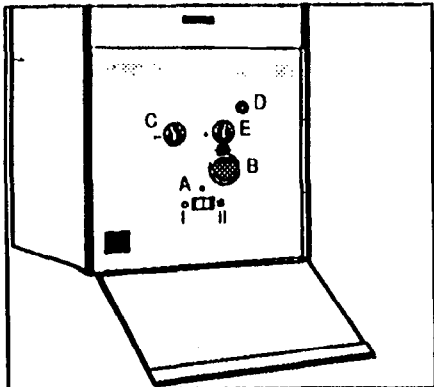
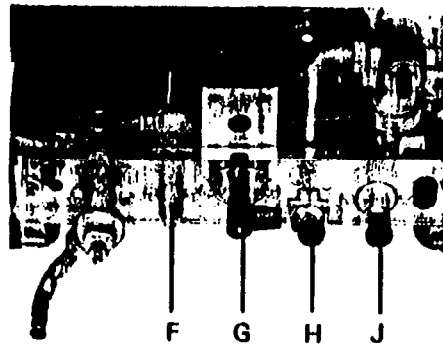

Fig. 1
Fig. 2
- 2) Turn the lever on the gas service tap to the left (G) (Fig. 2).
- 3) Set the selector switch (A) (Fig. 1) to the required position. To the left for hot water only (I) or to the right for hot water + central heating (II).
- The fan will start up and the pump will run if set to hot water + central heating (II).
- 4) Press the igniter button (D) (Fig. 1) Fully in.
- 5) If set to hot water + central heating (II) check that the valve (Fig. 2) is fully open (turn anti-clockwise).
This boiler is designed to give hot water at different temperatures and is fitted with a temperature regulator (F) (Fig. 2). This regulator is adjusted and set at the time of installation by the installer.
Set the selector switch to the centre position off (O) Turn off the gas by turning the lever (G) (Fig. 2) on the gas service tap to the right. Turn off the electricity supply.
Set the selector switch (A) (Fig. 1) to hot water only position (I), turn off the valve (H) (Fig. 2) under the appliance and leave electricity supply on.
- Set the boiler thermostat (B) (Fig. 1) as required depending on the desired room temperature. To increase the heat turn to "+", to reduce the heat turn to "-". The temperature gauge indicates the temperature of the water going to the radiators.
- Switch to "hot water only" and close the valve (J) (Fig. 2) on the heating flow.
PRESSURE GAUGE (C) (Fig. 1)